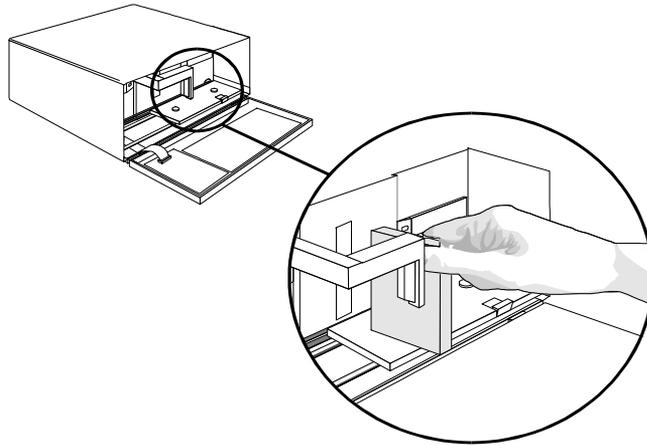

Figure 16. Inserting the Cleaning Tape
- Open the door and insert the cleaning tape into the drive opening with the label facing you (see Figure 16).